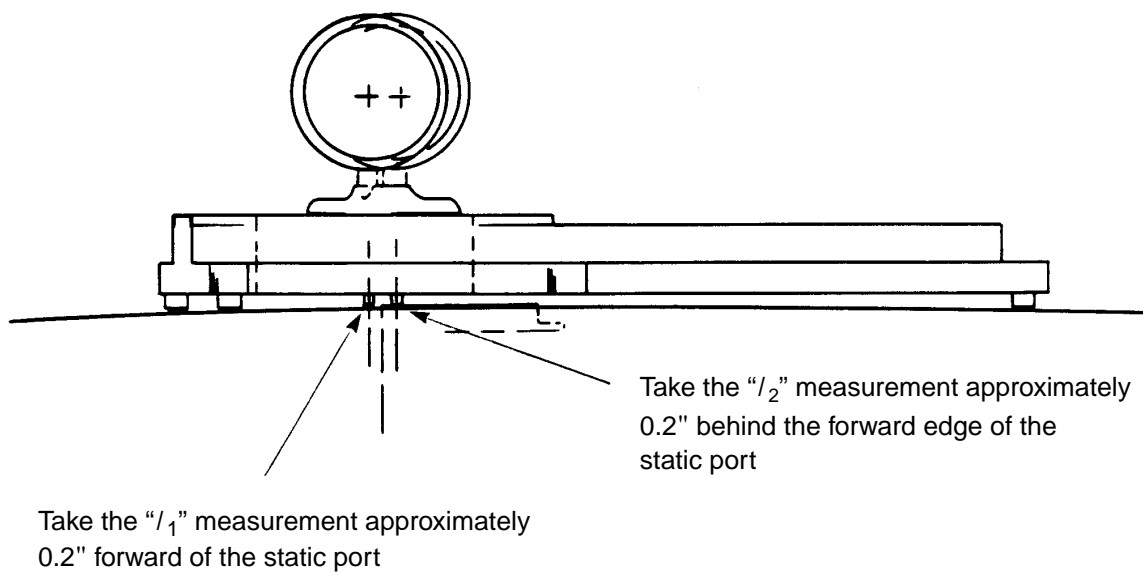

FIGURE 6 - CHECKING STATIC PORT HEIGHT - DASH 8 SERIES 100 AND 300 AIRCRAFT
- 5.4.1 Check the static port height of each static port as follows (see Figure 6 or Figure 7, as applicable):